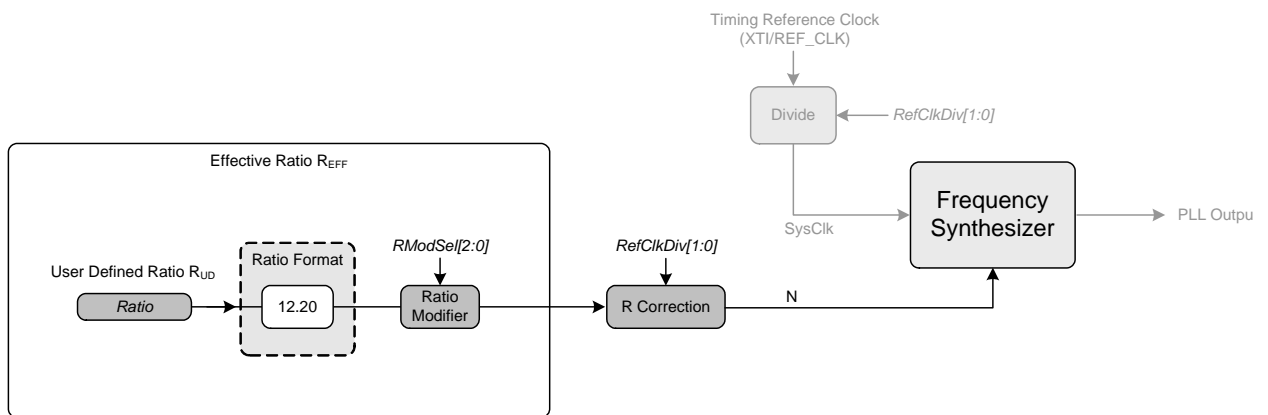

Figure 7. Ratio Feature Summary
The R_{UD} is the user defined ratio stored in the register space. R-Mod is applied if selected. The user defined ratio and ratio modifier make up the effective ratio R_{EFF} , the final calculation used to determine the output to input clock ratio. The effective ratio is then corrected for the internal dividers. The conceptual diagram in Figure 7 summarizes the features involved in the calculation of the ratio values used to generate the fractional-N value which controls the Frequency Synthesizer.
- Changes made to the registers which affect the Fraction-N value that is used by the Frequency Synthesizer. This includes all the bits shown in Figure 7 on page 13.